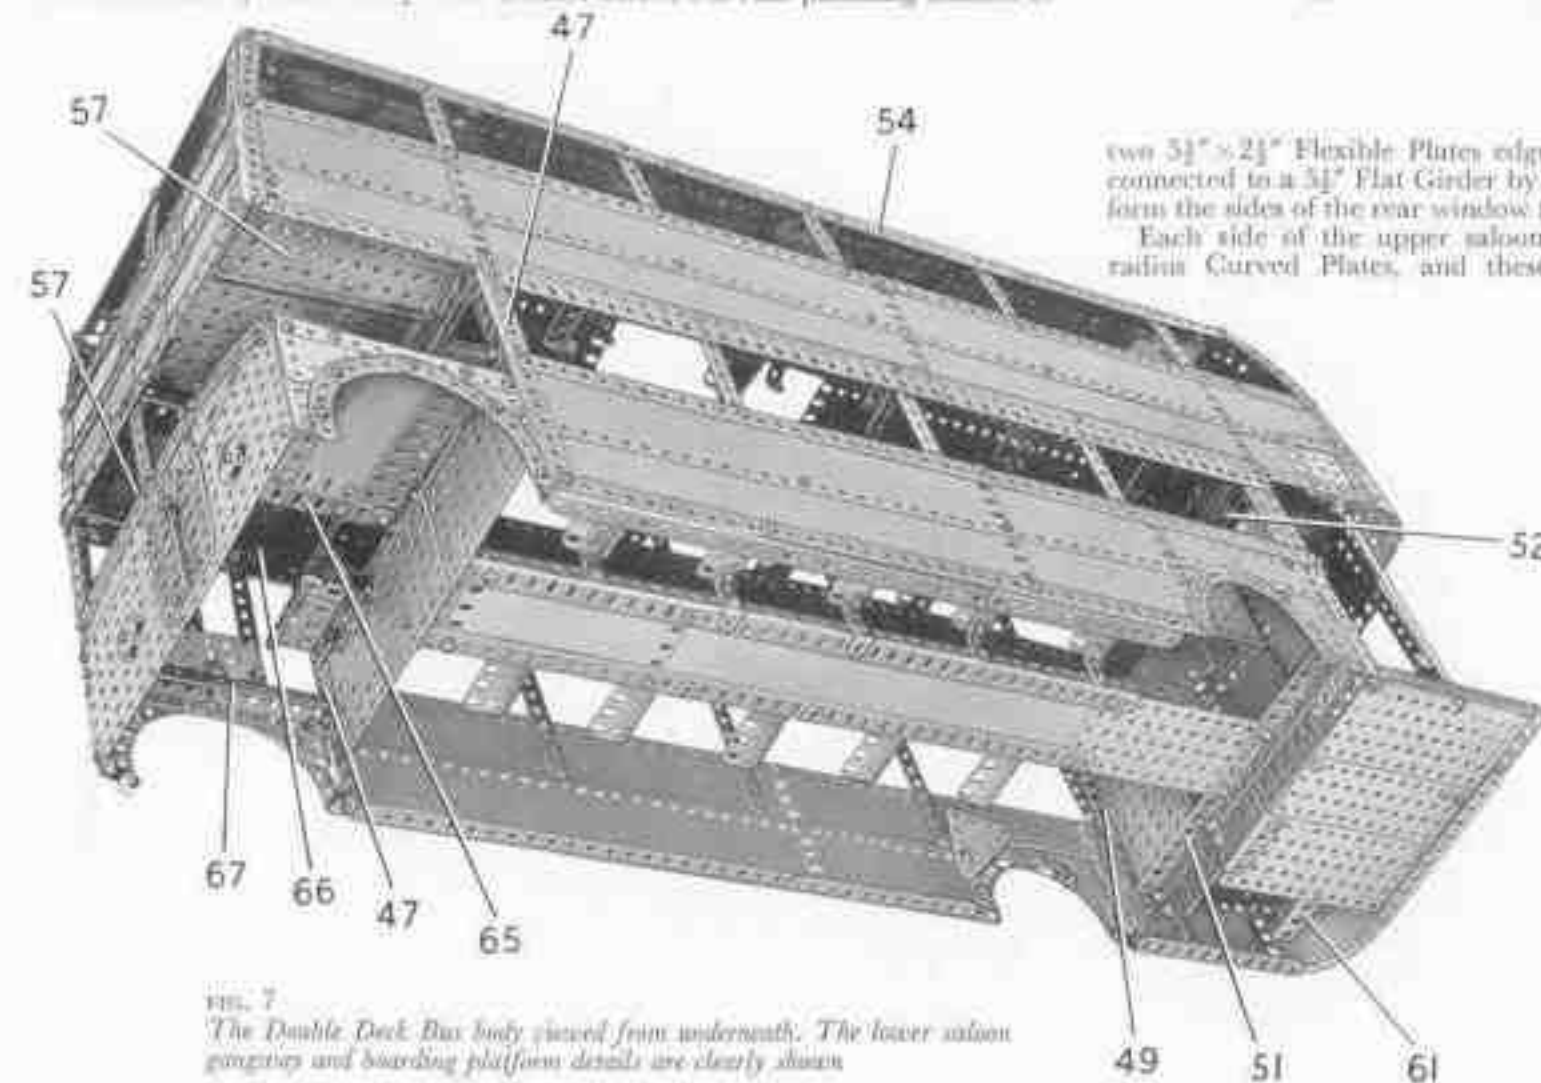
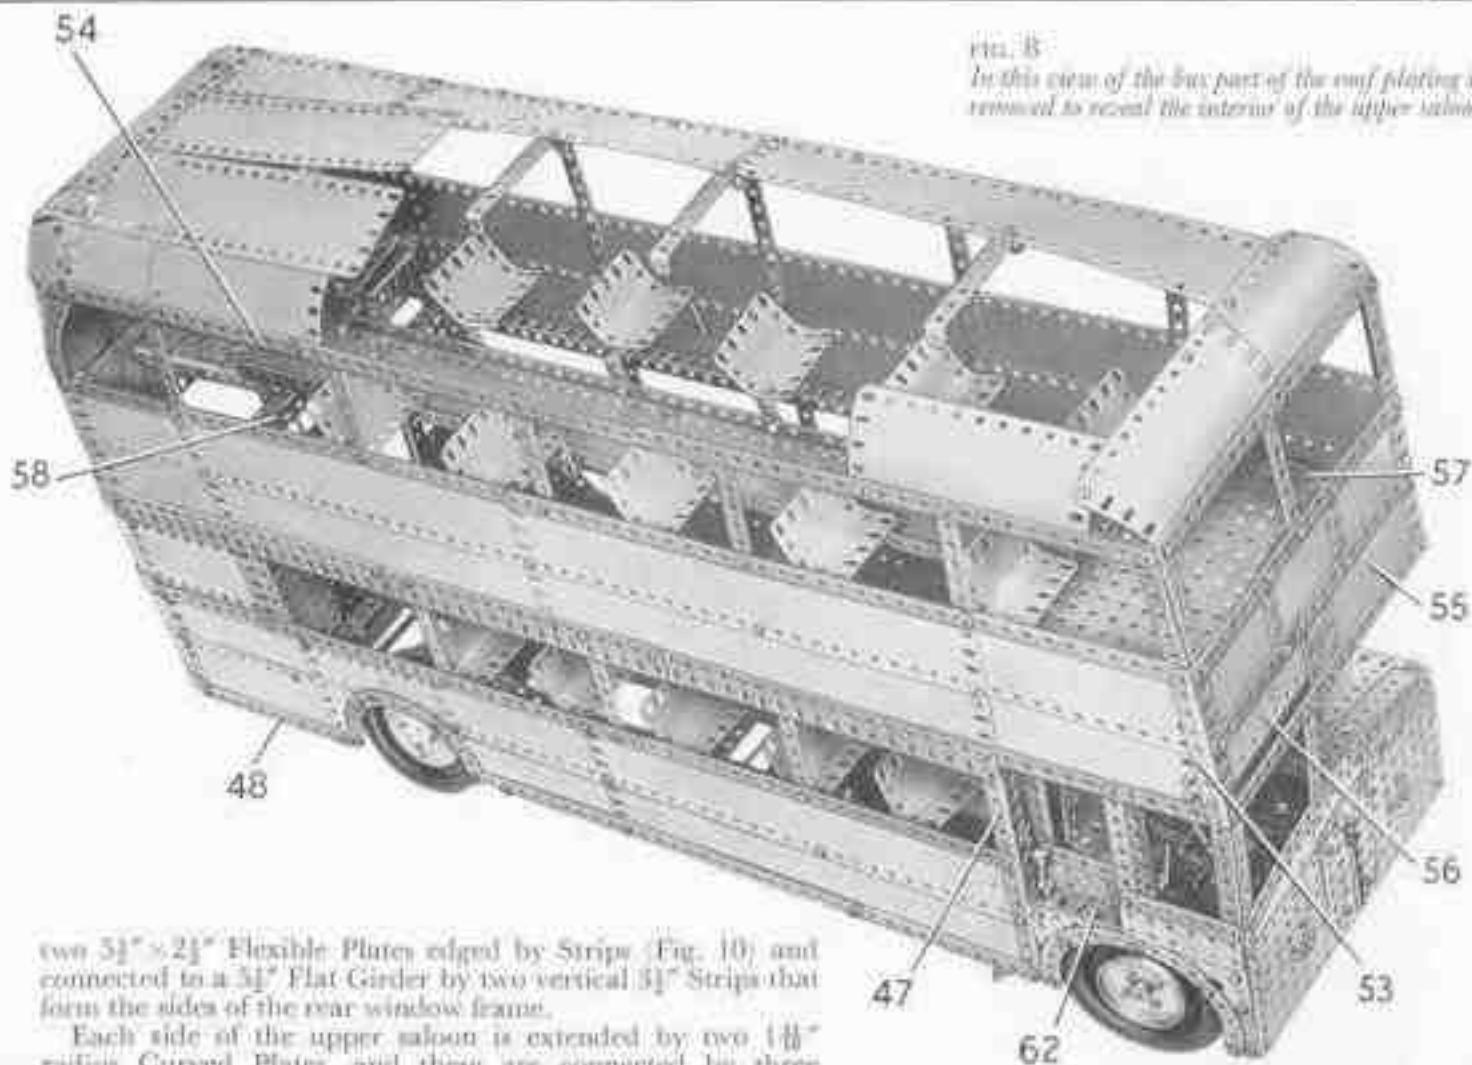

FIG. 7
FIG. 8
#### The Lower Saloon (Figs. 8 and 9)
The side seen in Fig. 8 consists of two  $12\frac{1}{2}" \times 2\frac{1}{2}"$  Strip Plates and four  $5\frac{1}{2}" \times 2\frac{1}{2}"$  Flexible Plates, with a  $5\frac{1}{2}" \times 1\frac{1}{2}"$  Flexible Plate and a  $3\frac{1}{2}" \times 2"$  and a  $2\frac{1}{2}" \times 1\frac{1}{2}"$  Triangular Flexible Plate over the rear wheel arch. The Plates are fixed to a  $7\frac{1}{2}"$  Angle Girder (47) at the front, and are edged along the top by two  $12\frac{1}{2}"$  Strips and a  $5\frac{1}{2}"$  Strip. The lower edges are strengthened by a  $12\frac{1}{2}"$  Strip, a  $5\frac{1}{2}"$  Strip and a  $3\frac{1}{2}"$  Angle Girder (48), with a  $12\frac{1}{2}"$  and a  $5\frac{1}{2}"$  Angle Girder bolted to the inside (Fig. 7). A  $9\frac{1}{2}"$  Angle Girder (49) is fixed vertically to the side, and to it are bolted a  $4\frac{1}{2}" \times 2\frac{1}{2}"$  Flexible Plate and a  $3\frac{1}{2}"$  Flat Girder. The window divisions are  $12\frac{1}{2}"$  Strips, each of which overlaps the side by four holes. These Strips are connected by three  $9\frac{1}{2}"$  Flat Girders. A  $2\frac{1}{2}"$  Angle Girder is bolted along the top row of holes in the Flat Girders, on the inside, starting at the Girder (49) so that it overhangs the Girder (47) by three holes.
The sides are connected at the front by two  $5\frac{1}{2}" \times 3\frac{1}{2}"$  Flat Plates overlapped three holes and edged at the top by a  $9\frac{1}{2}"$  Strip. The Flat Plates are fixed to the Girders (47), and a  $9\frac{1}{2}"$  Angle Girder (50) is bolted between their top ends. A vertical  $5\frac{1}{2}" \times 1\frac{1}{2}"$  Flexible Plate is attached to the centre of the Girder (50) and to the Flat Plates. At the rear the sides are connected by  $9\frac{1}{2}"$  Angle Girders (51) and (52) (Fig. 7), bolted to the Girders (49).
The side seen in Fig. 8 consists of two  $5\frac{1}{2}" \times 2\frac{1}{2}"$  Flexible Plates, four  $12\frac{1}{2}" \times 2\frac{1}{2}"$  Strip Plates and two  $4\frac{1}{2}" \times 2\frac{1}{2}"$  Flexible Plates. These are fixed to the vertical  $12\frac{1}{2}"$  Strips that form the window divisions. At the front a  $4\frac{1}{2}"$  Angle Girder (53) is connected to the top edge of the lower saloon by a  $7\frac{1}{2}"$  Strip. The top edges of the Plates are strengthened by two  $12\frac{1}{2}"$  Strips and two  $5\frac{1}{2}"$  Strips. A built-up strip (54), made from three  $12\frac{1}{2}"$  Strips, is bolted to the top ends of the window divisions. In addition to the vertical  $12\frac{1}{2}"$  Strips, two  $5\frac{1}{2}"$  Strips, a 4" Curved Strip and a  $3\frac{1}{2}"$  Strip at the front, are used to form the windows of the upper saloon.
At the front of the bus the Girders (53) are connected by two  $9\frac{1}{2}$ " Strips and a built-up strip made from two  $5\frac{1}{2}$ " Strips overlapped three holes (Fig. 8). The front is plated by three  $3\frac{1}{2}$ " x  $2\frac{1}{2}$ " Flexible Plates at the top, with one half of a Hinged Flat Plate (55), a  $2\frac{1}{2}$ " x  $1\frac{1}{2}$ " Flexible Plate and a  $5\frac{1}{2}$ " x  $1\frac{1}{2}$ " Flexible Plate (56) below them. The Plate (56) is extended upward by another  $5\frac{1}{2}$ " x  $1\frac{1}{2}$ " Flexible Plate, and this is recessed from the  $3\frac{1}{2}$ " x  $2\frac{1}{2}$ " Flexible Plates by nuts on the bolts that fix them together. The front ends of the strips (54) are connected by Angle Brackets to two  $5\frac{1}{2}$ " Strips overlapped three holes.
A  $5\frac{1}{2}$ " x  $2\frac{1}{2}$ " Flanged Plate (57) (Fig. 7) is bolted to each side, and these are connected by a  $5\frac{1}{2}$ " x  $3\frac{1}{2}$ " Flat Plate and a  $5\frac{1}{2}$ " x  $2\frac{1}{2}$ " Flat Plate. At the rear a  $9\frac{1}{2}$ " Flat Girder (58) is bolted between the top ends of the Girders (49) and a  $5\frac{1}{2}$ " x  $2\frac{1}{2}$ " Flanged Plate is fixed between this Flat Girder and the rear panelling. Two  $4\frac{1}{2}$ " x  $2\frac{1}{2}$ " Flexible Plates secured to the Flanged Plate provide a cover over the boarding platform. A  $4\frac{1}{2}$ " Angle Girder is fixed to the centre of the Flat Girder (58).
**Rear Panelling and Boarding Platform (Figs. 7, 8 and 10)**
The side of the lower saloon seen in Fig. 8 is extended at the rear by three curved  $5\frac{1}{2}$ " x  $2\frac{1}{2}$ " Flexible Plates, the lower one edged by a Formed Slotted Strip at the bottom, and by a curved  $5\frac{1}{2}$ " Strip along its top edge. The lower edge of the top Plate is covered by a curved  $5\frac{1}{2}$ " Flat Girder. The lower rear panelling consists of
The platform floor is formed by a  $5\frac{1}{2}$ " x  $3\frac{1}{2}$ " and two  $5\frac{1}{2}$ " x  $2\frac{1}{2}$ " Flat Plates edged by  $5\frac{1}{2}$ " Angle Girders as shown (Figs. 7 and 10). A built-up flat girder, made from a  $7\frac{1}{2}$ " and a  $2\frac{1}{2}$ " Flat Girder, is bolted to a  $9\frac{1}{2}$ " Strip fixed across the Girders (49) and is connected to the floor by a Girder Bracket.
**The Bonnet and Cab (Figs. 8 and 9)**
The off-side of the cab is made by attaching a 3 1/2" Angle Girder (62) (Fig. 8), to the Girder (47) by means of an Angle Bracket. The front end of the Girder (62) is connected to the Girder (53) by a 5 1/2" Strip. The side is plated by a 2 1/4" x 1 1/4" and a 2 1/4" x 2 1/4" Triangular Flexible Plate, and by a 3" x 1 1/4" Flat Plate.